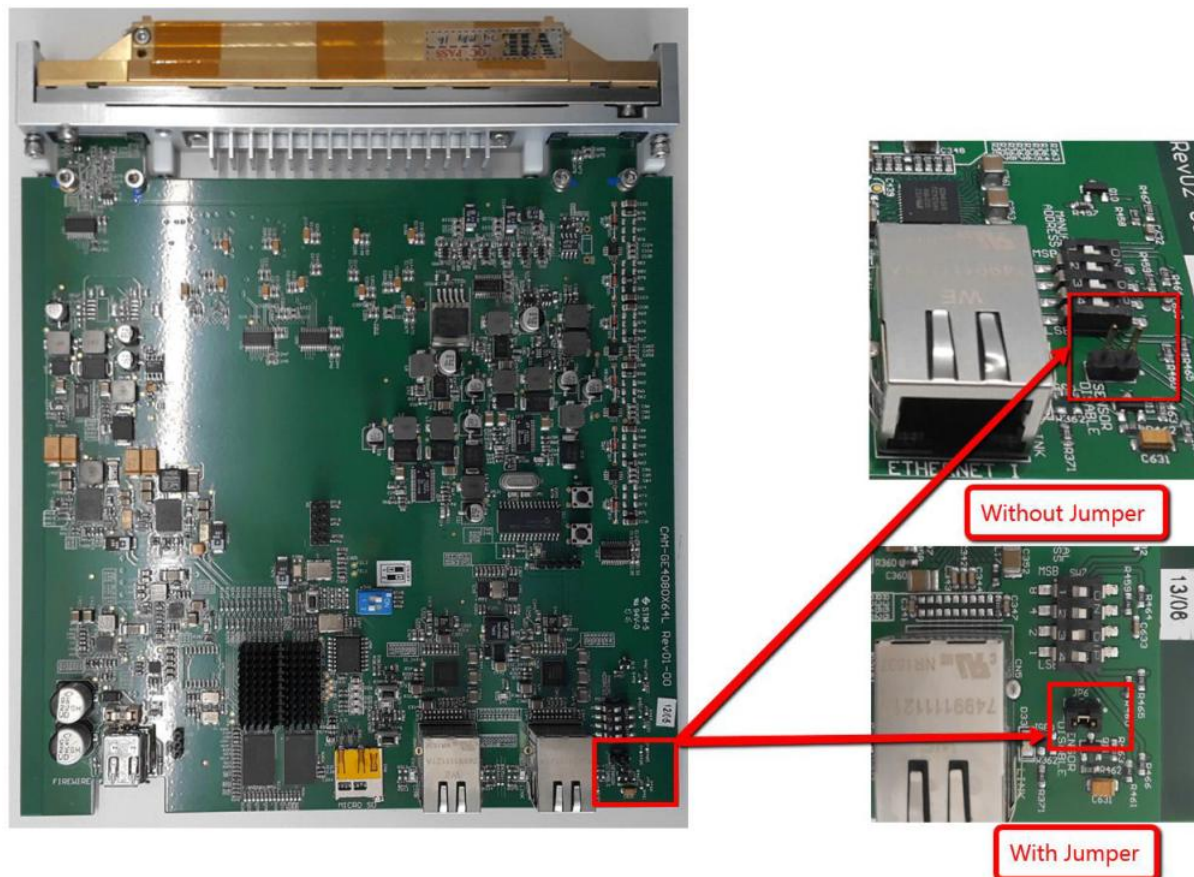

Figure 4 Jumper slot JP6
3. Gently plug Jumper at 3G Camera Board as below Figure 4